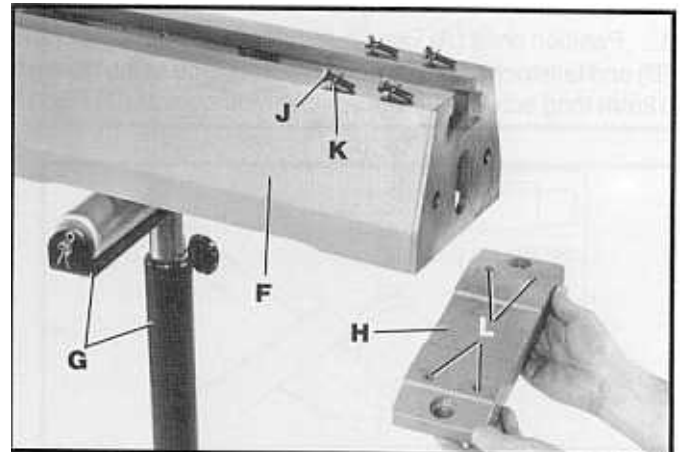

Fig. 10
1. Fasten foot casting (H) Fig. 10, to bottom of lathe bed section (F) using the four 30mm long hex head screws (J) and flat washers (K). Hex head screws (J) are inserted up through the four holes (L) in casting (H) and threaded into the four threaded holes located underneath lathe bed section (F). Note that roller stand (G) is supporting bed section (F).